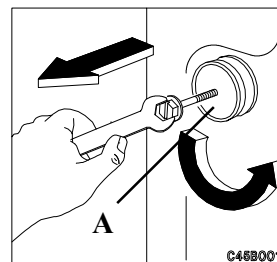

Fig. 3
- On the back part and with a spanner, remove the two red loosened spacers (A) (fig. 3).